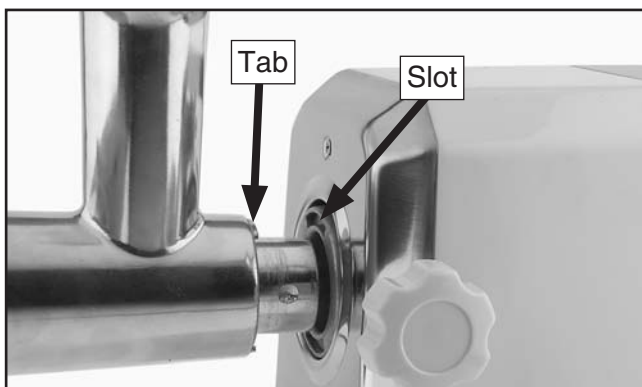

Figure 5. Installing grinder head.
3. Align the tabs on the grinding head with the slots on the grinder (see **Figure 5**), then insert the grinding head into the grinder bore and secure it with the lock knob.